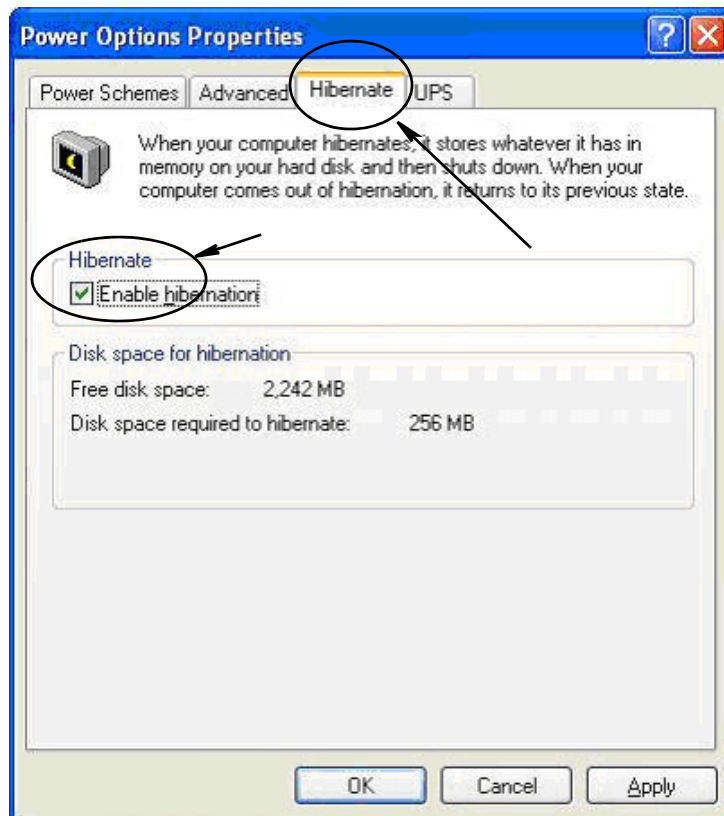

FIG. 15
3. Select the Hibernation tab. Turn off hibernation by clearing (unchecking) the Enable Hibernation check box . Click Apply and OK to close all windows (FIG. 15) and save the changes.